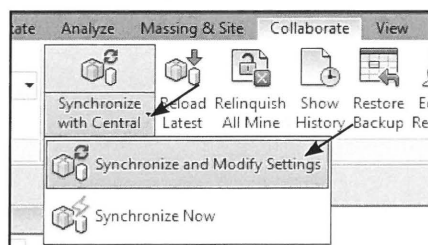

Fig. 16.14. Synkroniser din *Local File* med *Central File*.
- Klik *Collaborate - Synchronize with Central - Synchronize and Modify Settings* (Fig. 16.14).